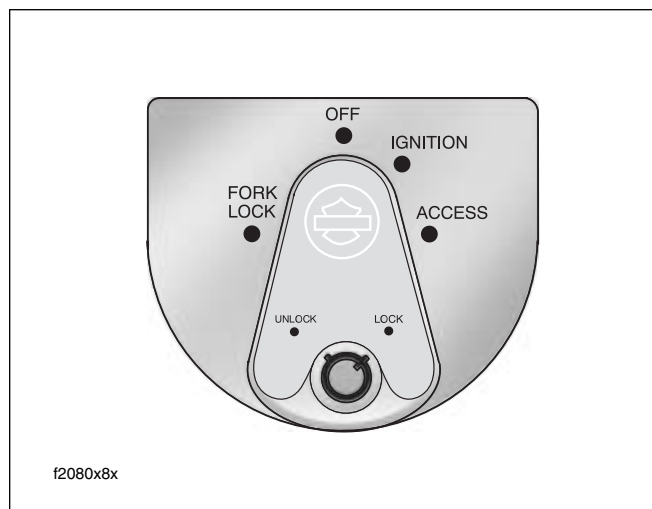

Figure 4-3. Ignition Switch (FLHX, FLHT/C)
- See Figure 4-3. “Key ON” means that the ignition key is turned to ON and the engine stop switch is set to RUN (although the engine is **not** running).